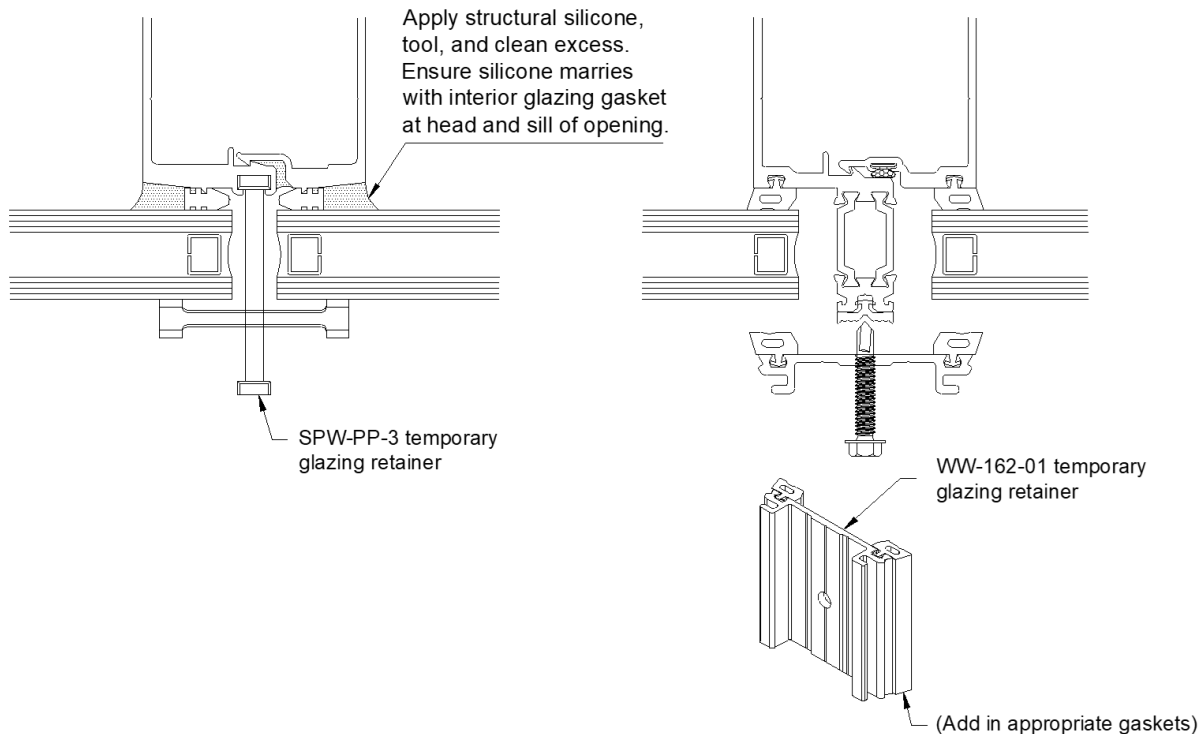

Figure 23: Temporary Retainers SSG & Captures Mullions
- 10.6 Temporarily hold glass in the opening with WW-162-01 or WW-333-01 temporary glazing retainers and FS-325 screws. Torque screws to 60 in-lbs. **NOTE:** Use the SPW-PP-3 retainer for SSG verticals. **See FIGURES 23.**
- WW-162-01 or WW-333-01 temporary glazing retainers must be applied at each glass edge 3" from the corner of the glass. Glass edges greater than 4' in length but less than 8' require an additional retainer at the glass mid-span. **See FIGURES 23 & 24.**